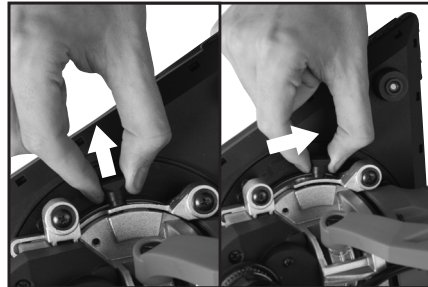

Fig. 10
- Pull out the Locking Pin and slide the Locking Lever **(Fig. 10)** in the quick release mechanism fully to the left.